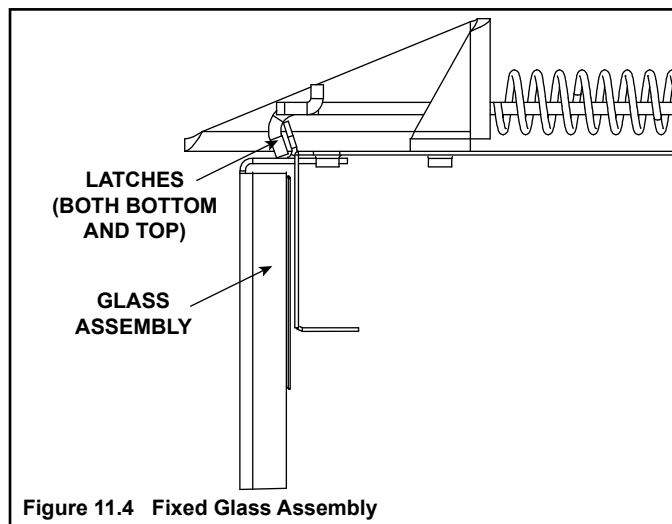

Figure 11.4 Fixed Glass Assembly
- Pull the four glass assembly latches out of the groove on the glass frame. Remove glass assembly from the appliance. See Figure 11.4.